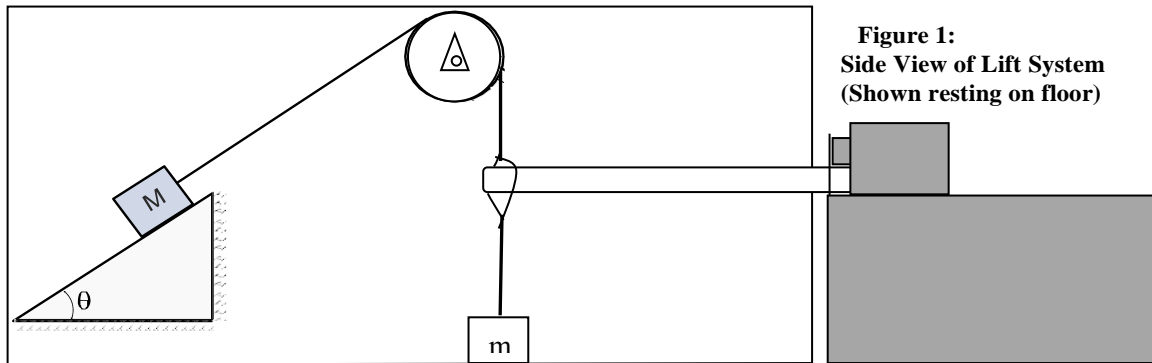

Figure 1:
A lift system is required to lift an end mass (m) of 500 suspended from a pulley boom. The lift is to be driven by a counterbalance mass (M) on an adjustable inclined plane ($40^\circ \leq \theta \leq 55^\circ$) connected to the pulley by a non-elastic cord as shown in Figure 1 below –